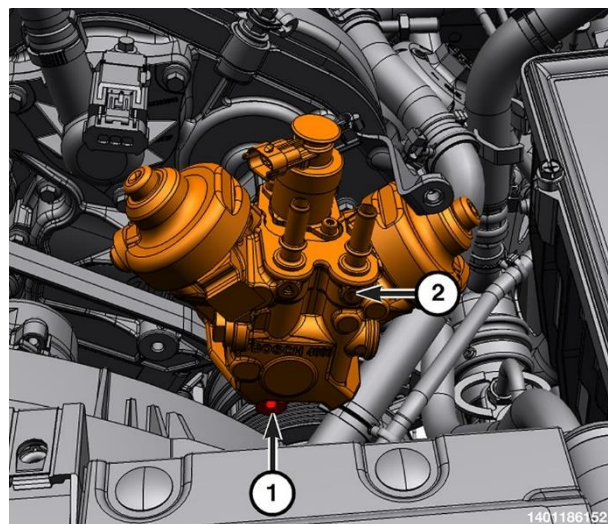

Figure 138 – HPFP Lower Bolt
78. Remove the lower bolt (1) from the HPFP (2) and remove it from the vehicle (Figure 138).
86. Install the lower fuel injection pump bolt (2) and hand tighten the bolt (1) (Figure 138).
88. Tighten the bolts (1) that secure the fuel injection pump to 25 N·m (18 ft. lbs.) (Figures 138 and 137).